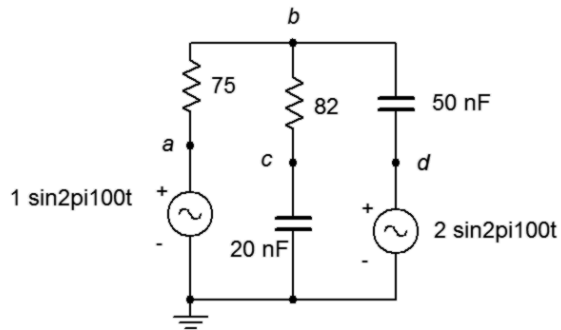

Figure 5.2
3. Use Superposition to find the current through the $82\ \Omega$ resistor. For the circuit shown in Figure 5.2.
4. Use Superposition to find v_b and v_{cd} for the circuit shown in Figure 5.2.